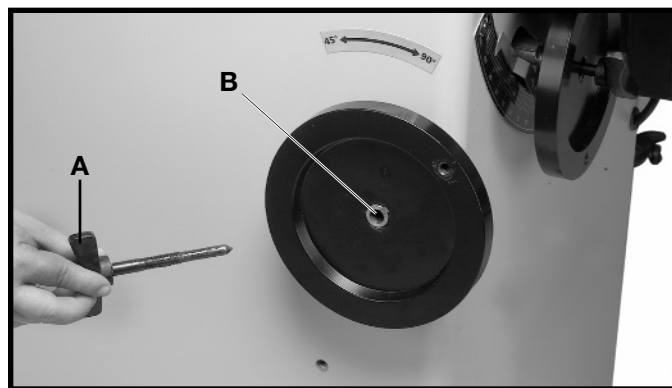

Fig. 4
Thread lock knob (A) Fig. 4, into threaded end of the shaft (B). Hand-tighten lock knob at this time.